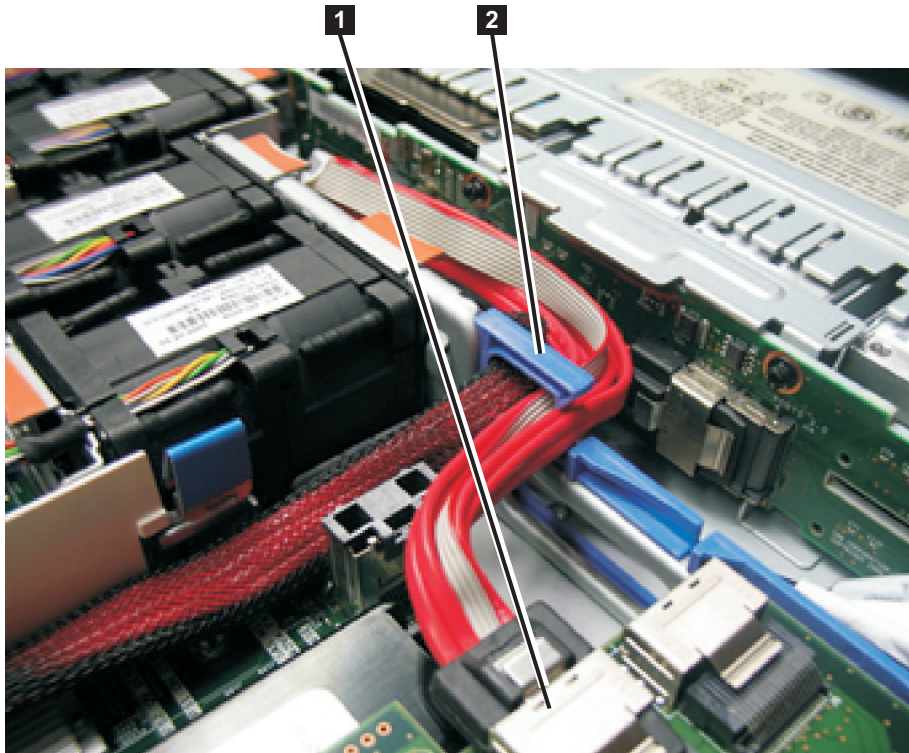

Figure 193. Boot-disk SAS cable routed through the blue bulkhead clip and connected to the SAS disk controller in the SAN Volume Controller 2145-CF8
10. Remove the cable from the blue bulkhead clip behind the disk backplane, as shown in Figure 193.